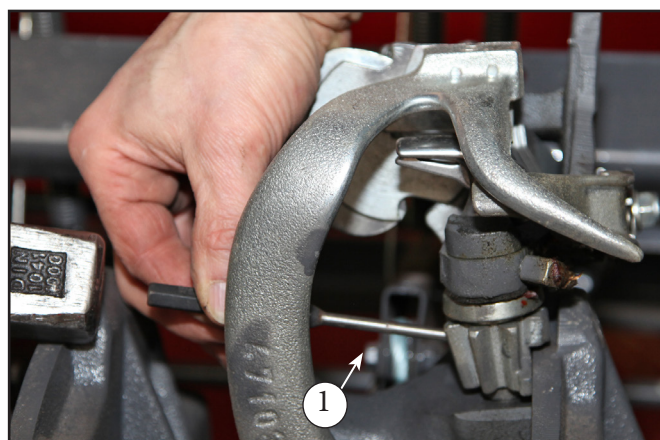

FIG. 74
FIG. 74: Raise or lower the knotter assembly to rotate the billhook pinion gear (1) for access to the groove pin. Drive the groove pin from the billhook pinion gear.